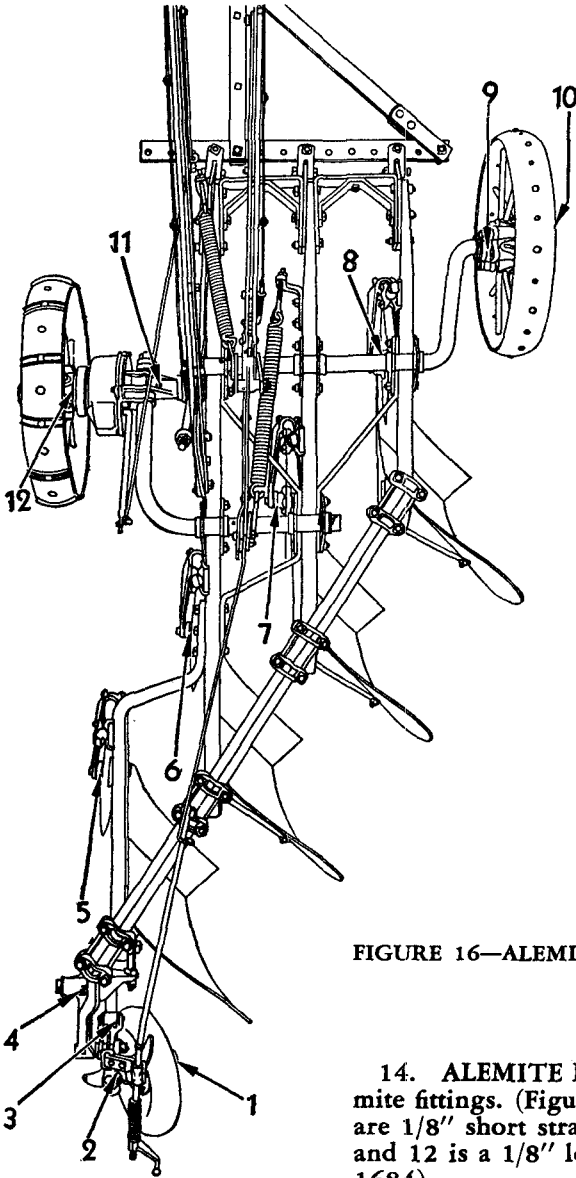

FIGURE 16—ALEMITE FITTINGS
14. ALEMITE FITTINGS.—Insert Alemite fittings. (Figure 16.) 1 to 11 inclusive are $\frac{1}{8}$ " short straight fittings (No. 1610) and 12 is a $\frac{1}{8}$ " long straight fitting (No. 1684).